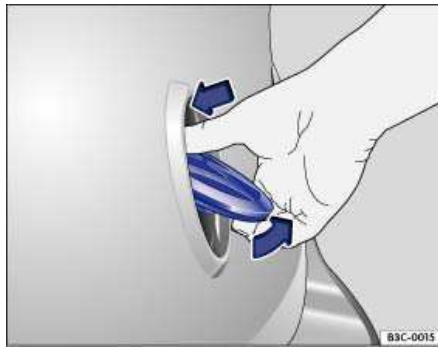

Fig. 30 Opening luggage compartment lid from the outside.
- Using your thumb, press the top of the Volkswagen emblem ⇒ fig. 30 and move the top of the emblem down. The luggage compartment lid opens automatically.